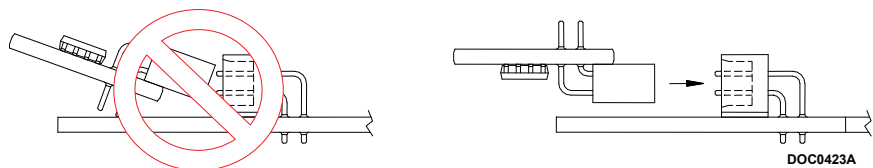

Figure 2. License Key Installation
6. Press the license key into the terminal unit until it is firmly seated (refer to *Figure 2*).